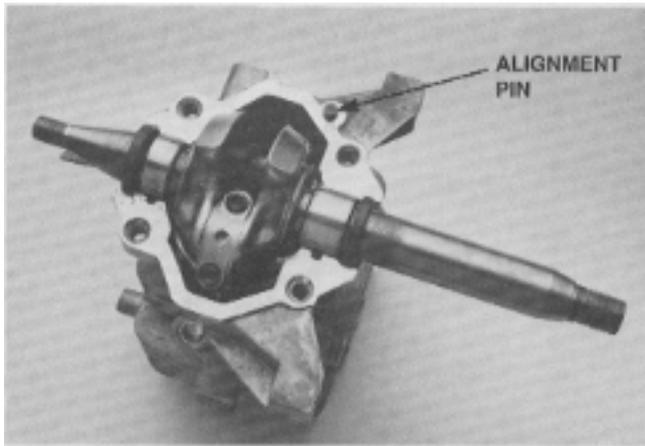

Figure 79
- Carefully align the two crankcase halves using the alignment pin and its matching hole; press the two halves together (**Figure 79**).